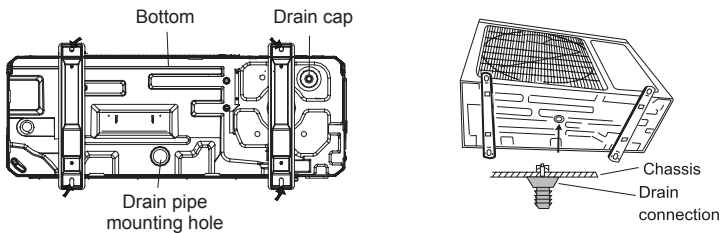

Fig. 4.8
4.2.2 Condensate Drainage of the Outdoor Unit(Only for the heat pump unit) (Fig. 4.8)